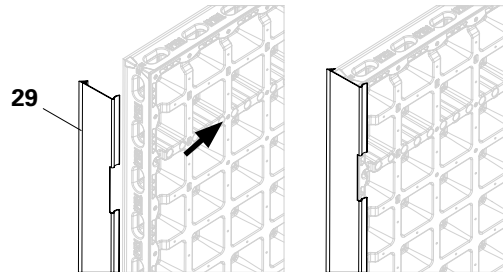

Fig. C1.03a
1. Position the DUO 135 chamfer strips (**29**) on the first panel unit, do not nail the DUO 135 chamfer strips (**29**) down. (Fig. C1.03a)